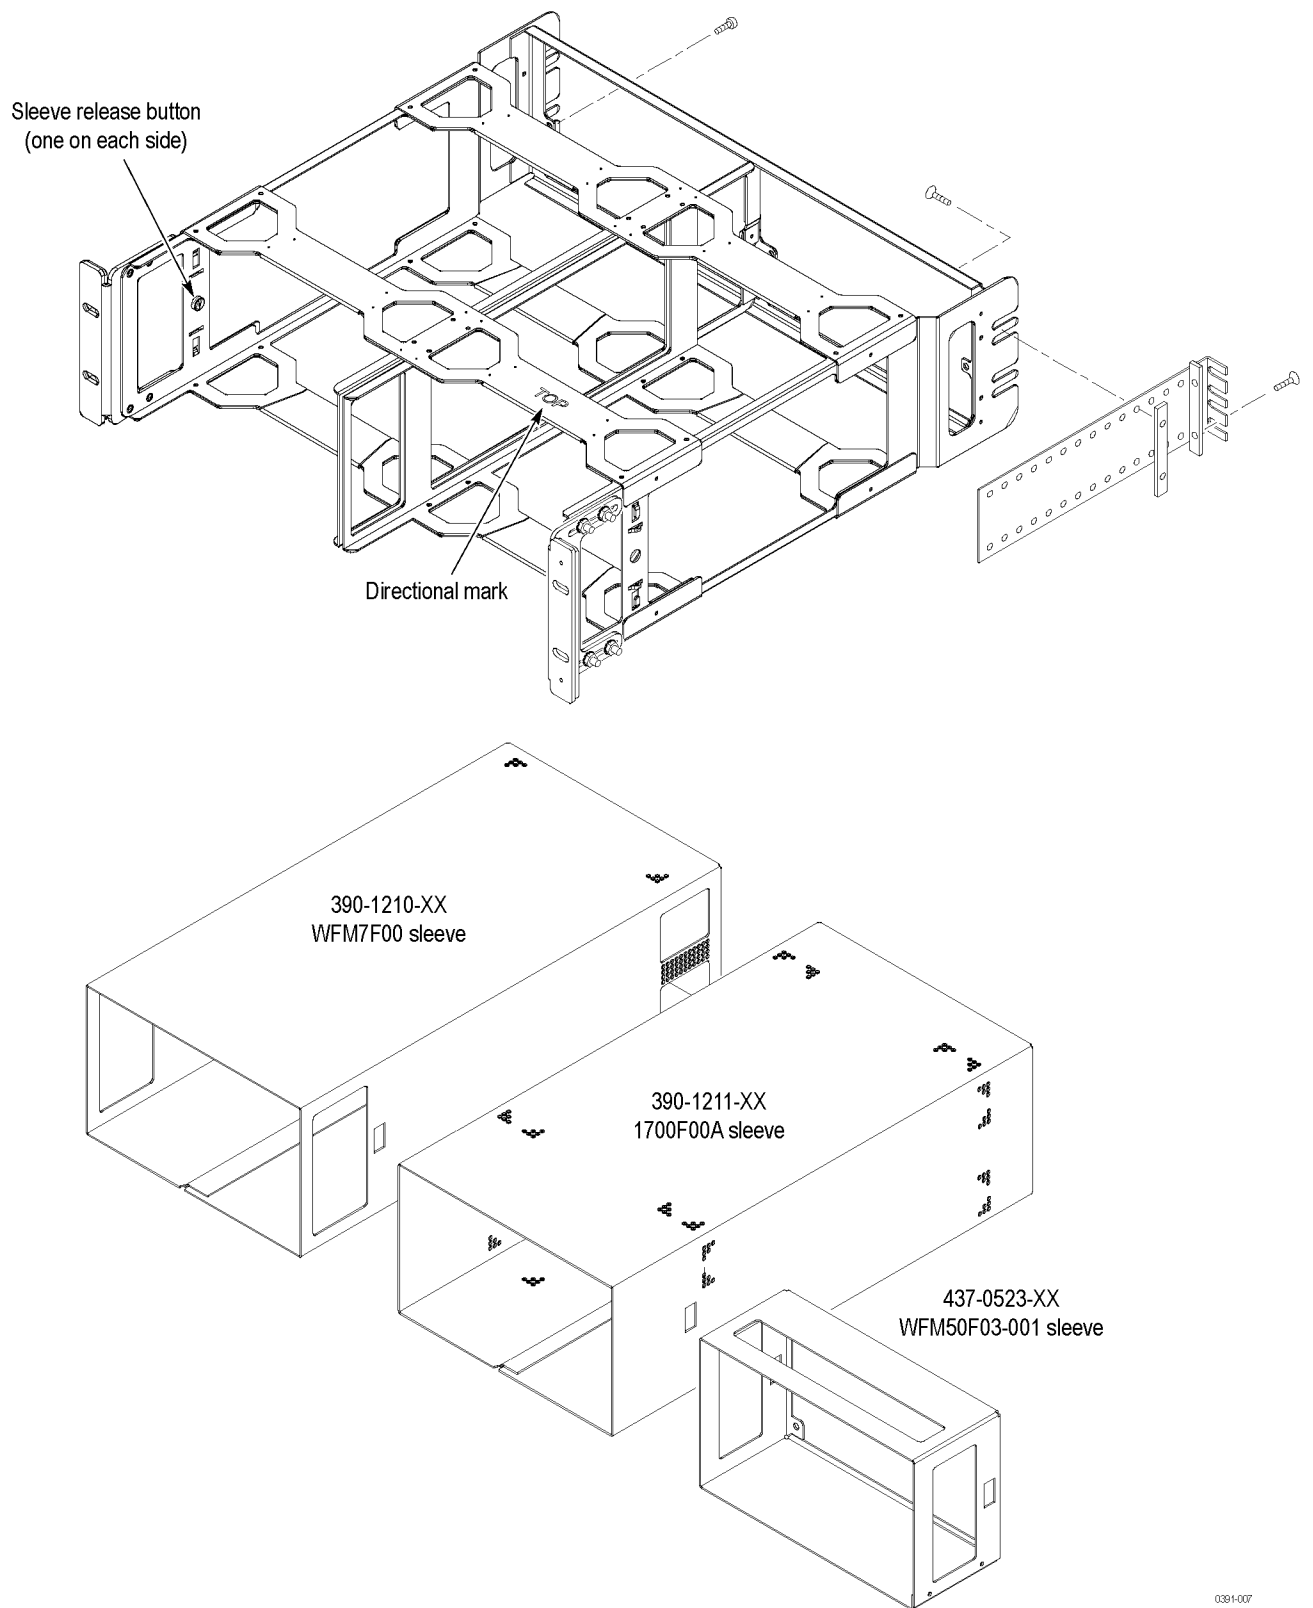

Figure 4: WFM7F05 exploded view
To install the instrument in a 19-inch equipment rack, you must use the WFM7F05 Rack Adapter kit. The WFM7F05 is designed to house two half-rack instruments side-by-side in a rack. (See Figure 4 on page 8.)
- The rack adapter is marked with the word "TOP" to indicate which side of the adapter should face up. (See Figure 4 on page 8.)
- Press the sleeve release buttons to remove the instrument from the rack adapter. (See Figure 4.)